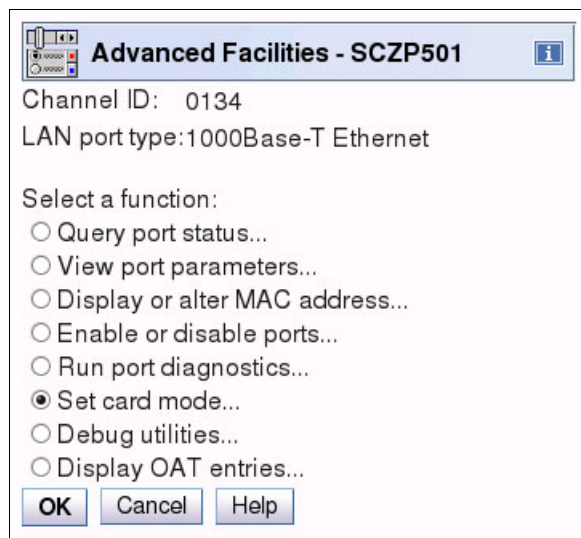

Figure 14-99 Selecting Card Mode definition
4. Select **Set card mode** and click **OK** (Figure 14-99).